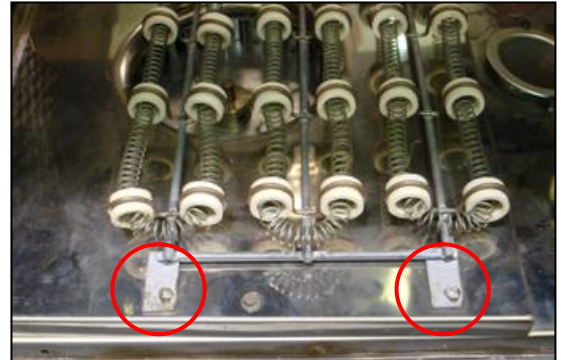

Figure 13. Remove Heater Panel by Removing Screw in Front Edge of Each Panel.
4. Unscrew the screws holding the heater frame to the oven body (Figure 13).